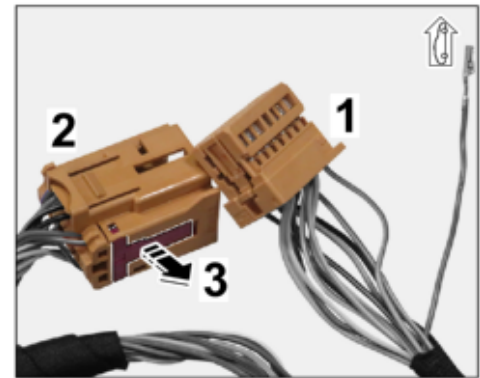

Figure 11
2.2.2 Rear cross-over connection point area (see also wiring diagram 11 – Rear cross-over) ⇒ *Figure 11*
- Repeat Step 2.1.3 for connector, 6-pin (brown) – left side (in direction of travel) for VT / WH; 0.52 line with pin contact. ⇒ *Figure 11 -2-*